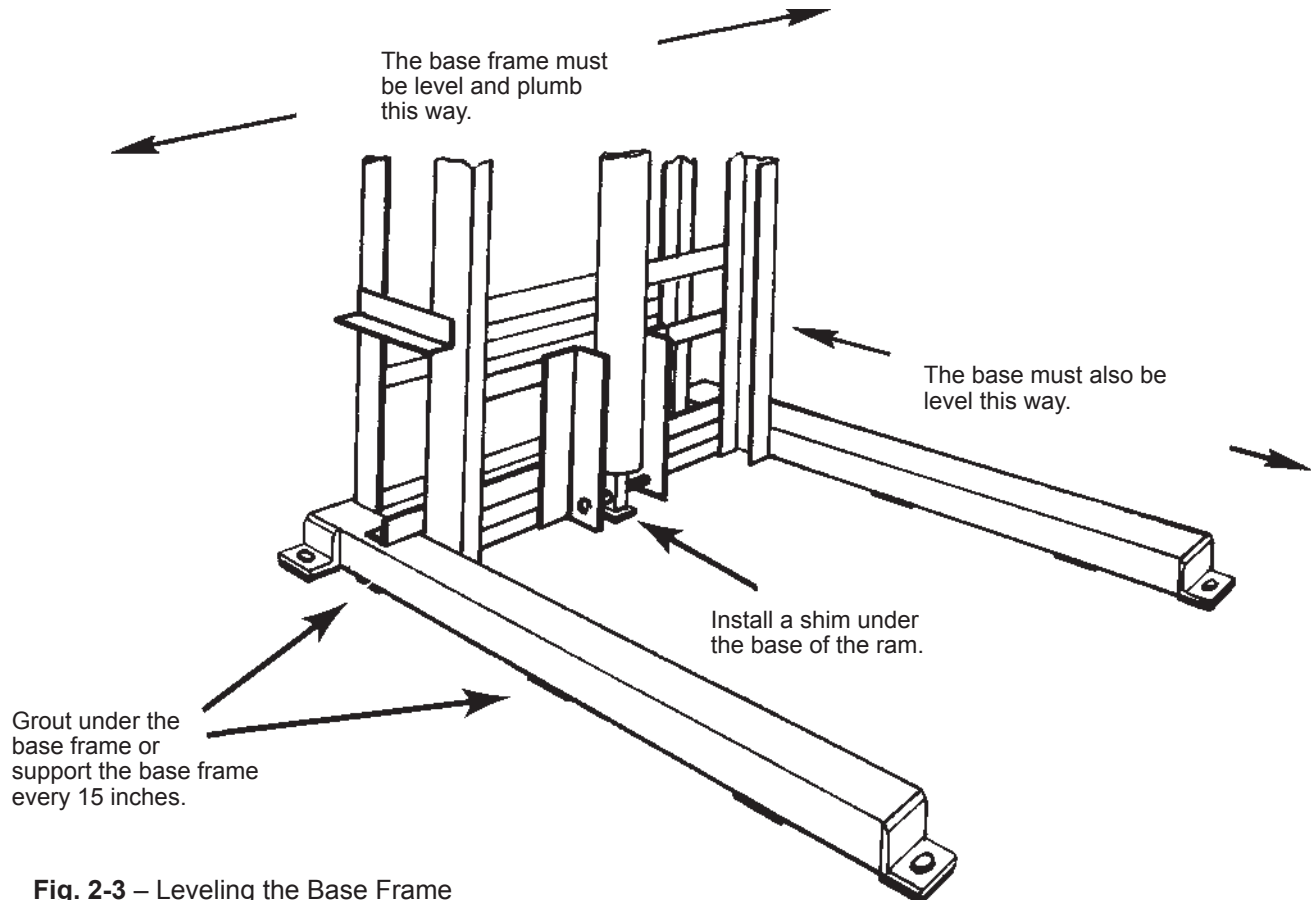

Fig. 2-3 – Leveling the Base Frame
2. Check the alignment of the base of the unit. The base frame must be level in both dimensions (left/right and forward/back). See Fig. 2-3. Also be sure the base of the unit is well supported. If possible, grout under the whole base frame with cement. If this is not possible, there should be a strong support point at least every 15 inches along each base rail. You may use sheet metal shims for this purpose. There should also be a support under the lower end of the ram. See Fig. 2-3.